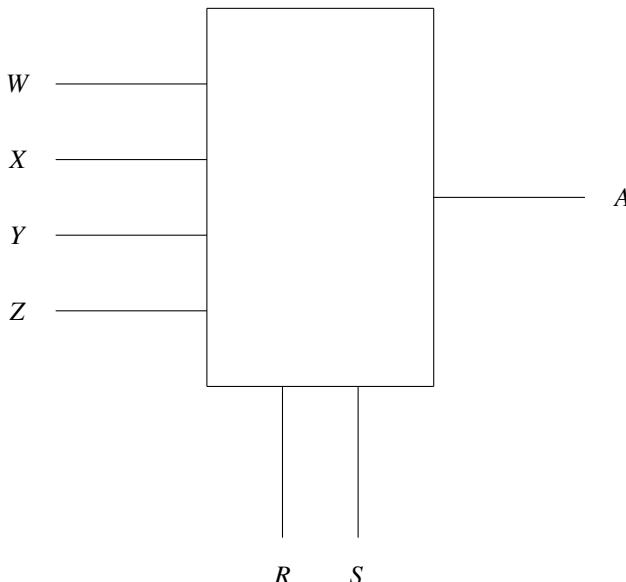

Fig. 4.12
25. Consider the 2-bit multiplexer(MUX) shown in Fig. 4.12. For output to be the XOR of R and S , the values for W, X, Y and Z are ?